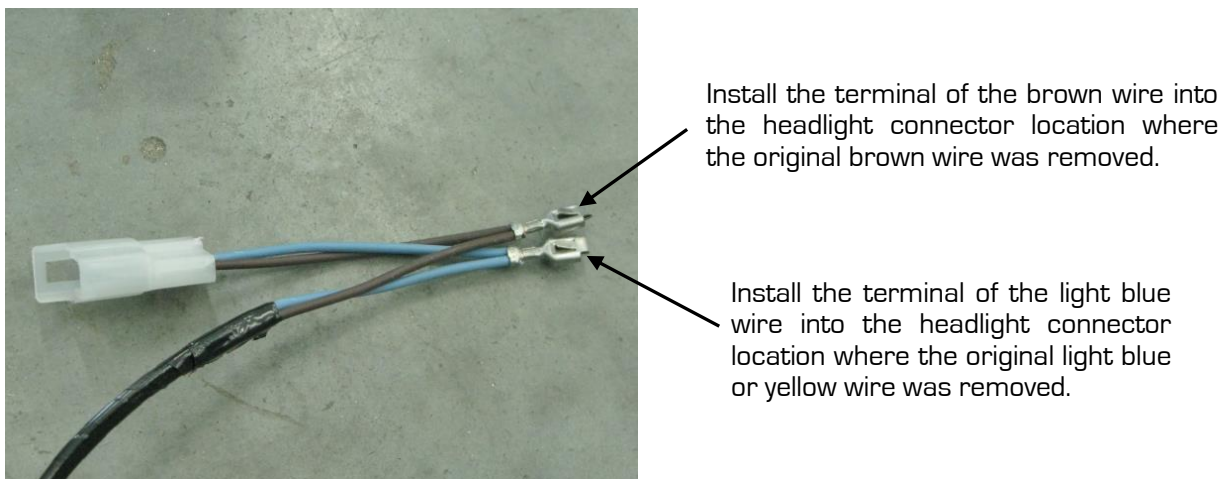

Figure 30 – New Headlight Harness
32. Insert the terminal of the light blue wire on the new headlight harness into the headlight connector location where the original light blue or yellow wire was removed. Insert the terminal of the brown wire on the new headlight harness into the headlight connector location where the original brown park lamp wire was removed (Figure 30).